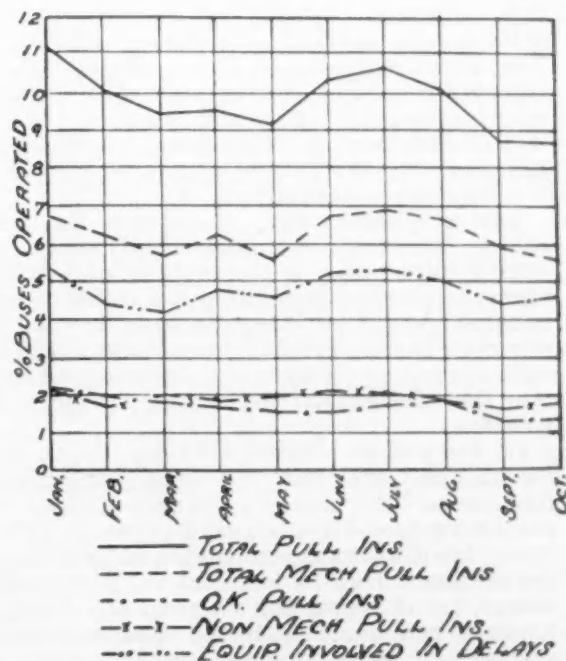

Fig. 1—International Railway Co. breaks down its bus pull-ins into four categories and keeps a monthly record of them
The "what" step, second part of the program, consists of a tabulation of all pull-ins analyzed under five major headings. See Fig. 1. This chart breaks down total pull-ins experienced in any one month into: (1) total mechanical pull-ins, (2) okay pull-ins, (3) nonmechanical pull-ins, and (4) equipment involved in delay pull-ins.